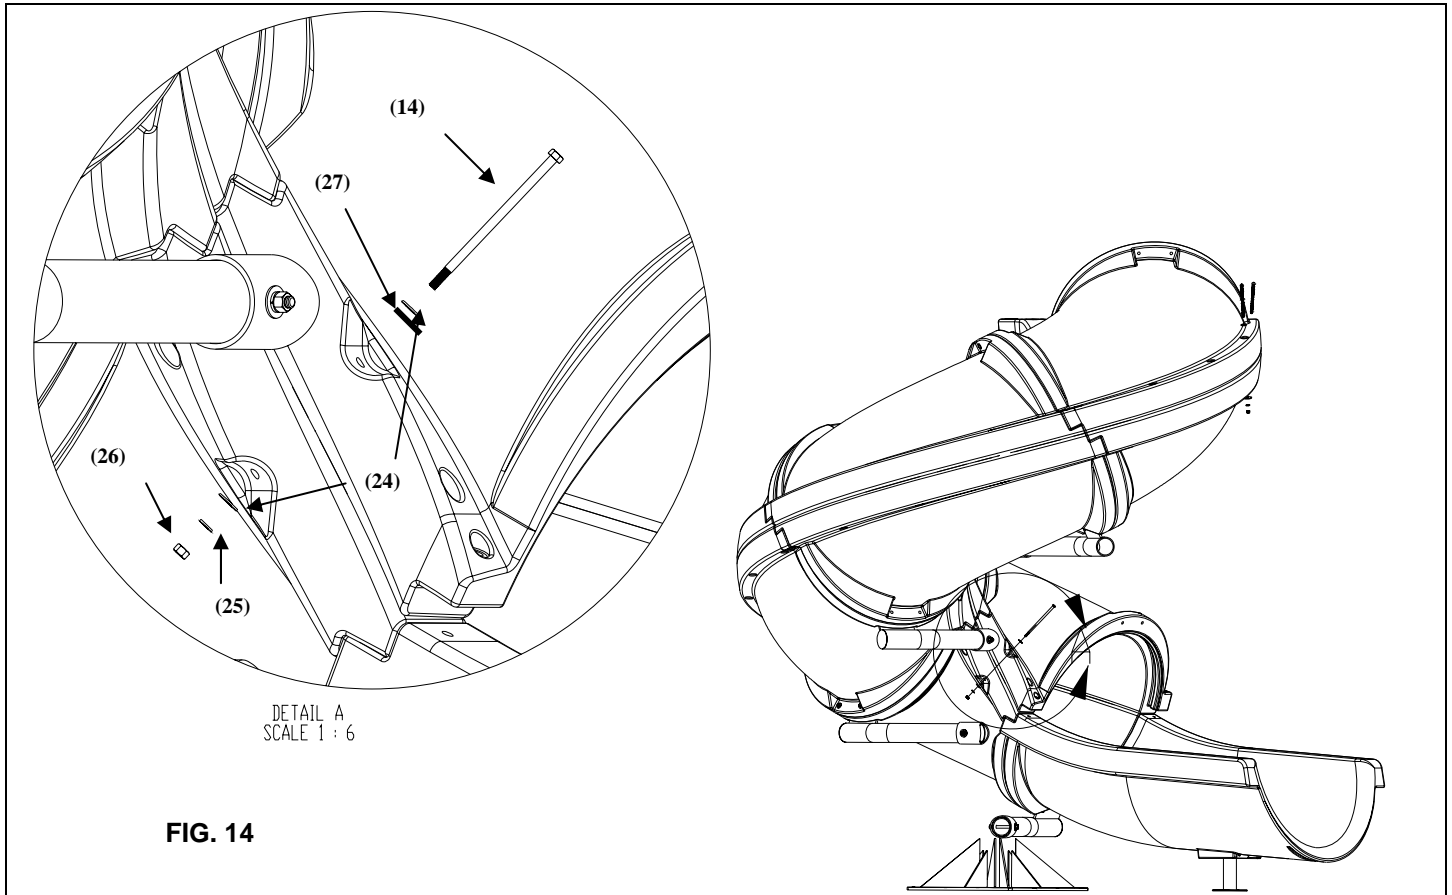

FIG. 14
11) Fasten the top and bottom runway parts together along the inside curve as shown in Figure 14, Detail A. The hardware required for this step is as follows: a 3/8"-16 x 8.5" Hex Head Cap Screw S/S (14), 3/8" Flat Washer S/S (24), 3/8" Rubber Washer (27), 3/8" Flat Washer S/S (24), 3/8" Lock Washer S/S (25), 3/8" Hex Nut S/S (26). There are four locations where this step is repeated.